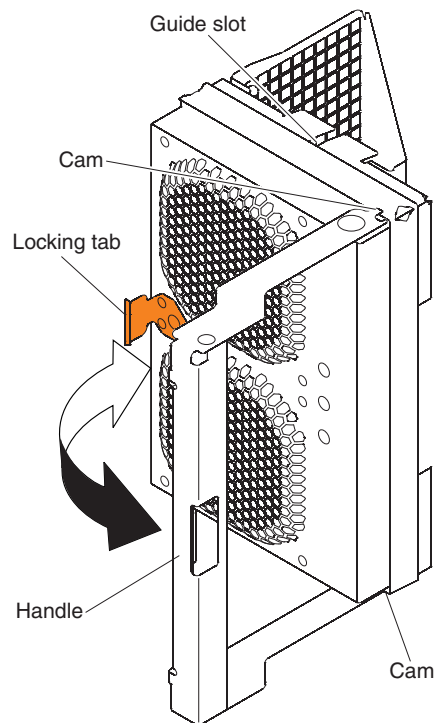

Figure 88. Removing a fan assembly
- a. At the rear of the storage expansion enclosure, remove the fan assembly (see Figure 88) by pressing on the locking tab holding the fan assembly handle in place; then, pull the fan assembly towards you.